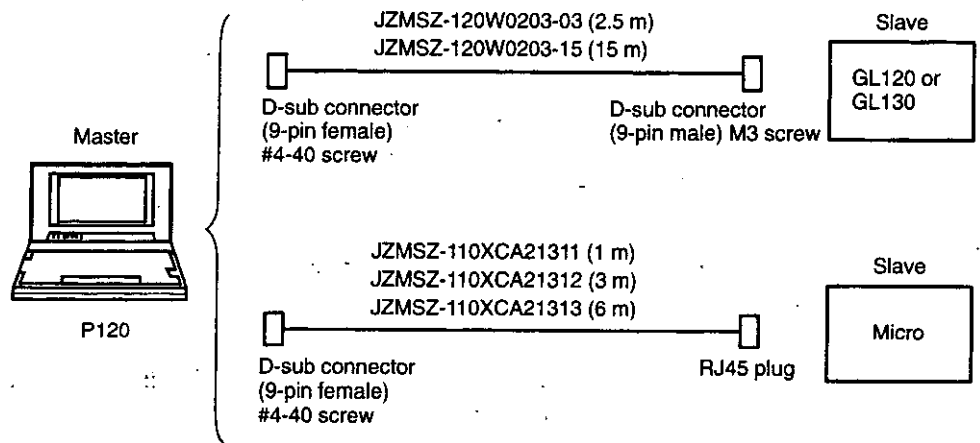

Figure 4.4 Programming Panel 1:1 Configurations
1) Figure 4.4 shows Programming Panel master configurations with a master and slave.